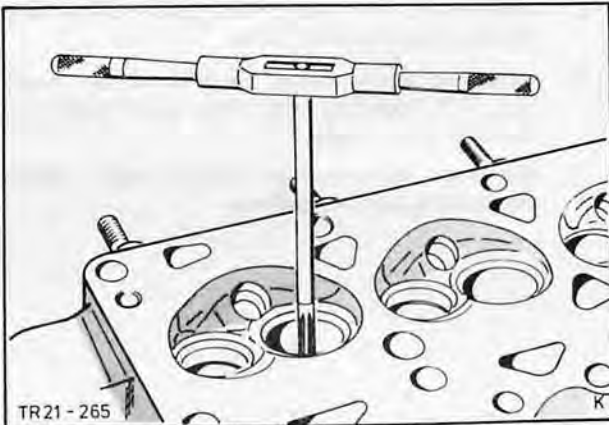

Fig. 177. Ream valve guide
2. Using reamer, ream valve guide from valve seat end, Fig. 177. After they have been used for a considerable time valve guides wear into an oval shape. When rectifying, reaming should always be carried out from the **valve seat end**. The size of bore chosen depends on the amount of wear of the guide bore and the valve oversizes available (see Parts Catalogue). When reaming the **smallest** reamer should always be used initially, since with the larger ones the depth of cut is too great. To lubricate, use drilling oil or petrol.